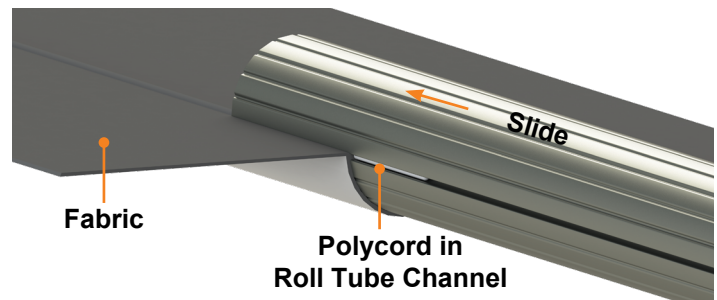

Fig.15
2. On a clean, level surface free of any debris that could scratch or damage the roll tube, gently slide the roll tube onto the two polycords of the fabric (**Fig.15**).